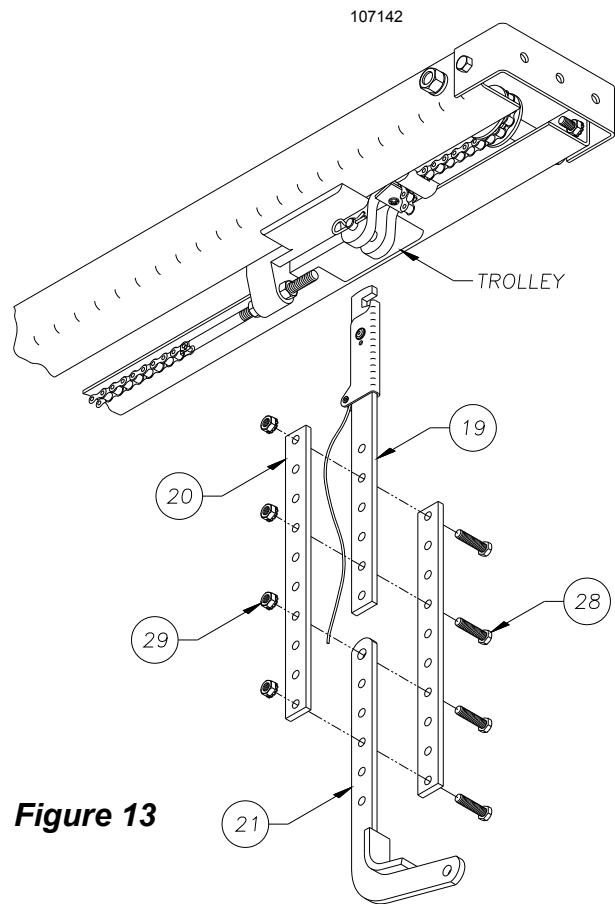

Figure 13
9) Fully close the door and move the trolley to within 2 inches of the idler sprocket. Using Figure 13 as a guide, connect the release arm (Item 19) to the trolley. Connect the two extension arms (Item 20) and the door curved arm (Item 21) to the door release arm with 5/16 inch bolts and keps nuts (Items 28 & 29).